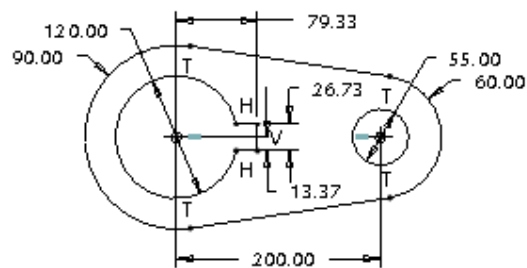

Figure 3-24 Sketch after dimensioning the keyway
2. Dimension the keyway, as shown in Figure 3-24.